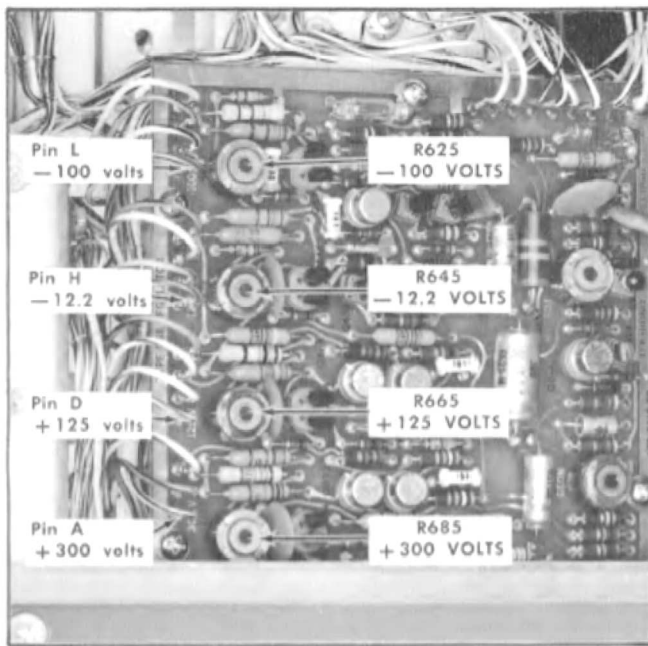

Fig. 6-4. Location of Low Voltage test points and adjustments.
- Connect the test probe to the —100-volt test point (pin connector 'L', low-voltage regulator board; see Fig. 6-4).
g. Adjust—R625, -100 -volt adjustment (see Fig. 6-4) so the test oscilloscope trace is at the center horizontal graticule line.
a. Connect the test probe to the $+125$ -volt test point (pin connector 'D', see Fig. 6-4).
e. Adjust—R665, $+125$ -volt adjustment (see Fig. 6-4) so the test oscilloscope trace is at the center horizontal graticule line.
a. Connect the test probe to the $+300$ -volt test point (pin connector 'A', see Fig. 6-4).
e. Adjust—R865, $+300$ -volt adjustment (see Fig. 6-4) so the test oscilloscope trace is at the center horizontal graticule line.
a. Connect the test probe to the -12.2 -volt test point (pin connector 'H', see Fig. 6-4).
- i. Adjust—R645, -12.2 volts adjustment (see Fig. 6-4) so the test oscilloscope trace is at the center horizontal graticule line.
Voltage Test Point (Fig. 6-4)	Maximum Ripple (60 Hz or 120 Hz)